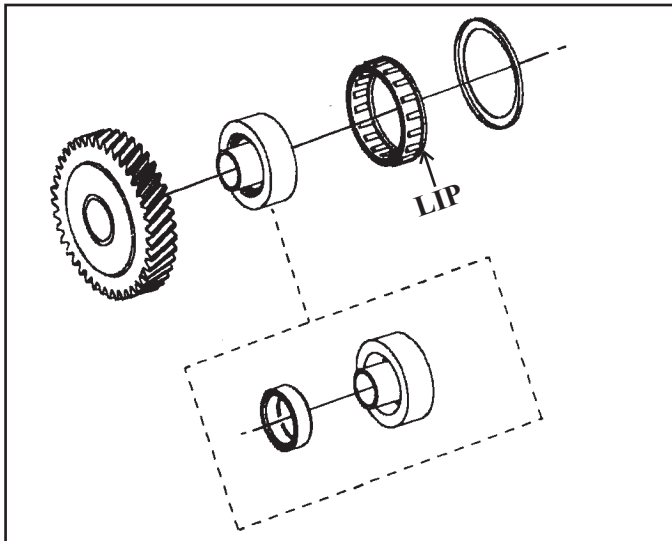

Figure 139
21. Remove the sprag from the 1st driven gear and inspect the races and sprag for wear. Also inspect the caged roller bearing that is inside the sprag's inner race (See Figure 139).
22. Assemble the lip of the sprag clutch facing the retainer as shown in Figure 139.